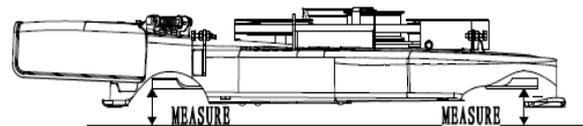

Figure 16
7.2.5 Position left blade in the side to side position and measure from the outside blade tip to the level surface (Refer to Fig. 16).